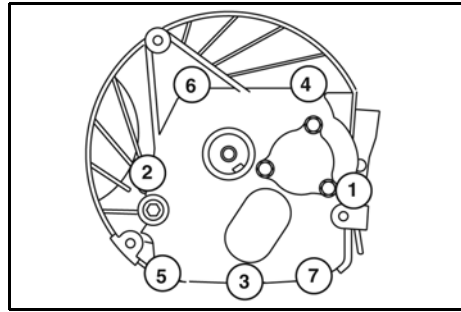

Figure 20
- Figure 20 - Vertical Shaft Models 97700 and 99700